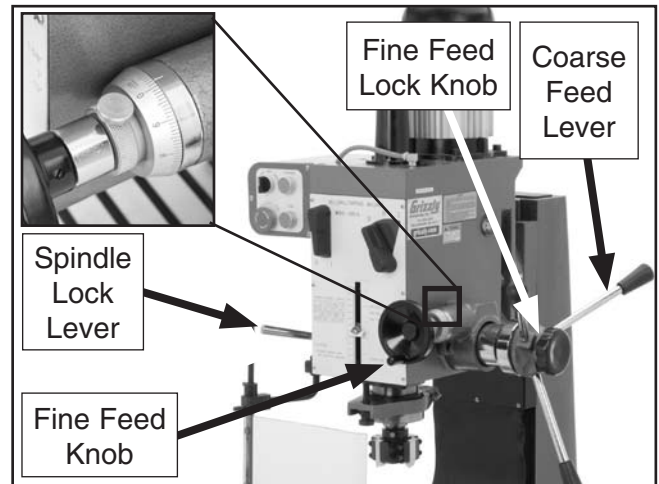

Figure 13. Spindle fine feed controls.
2. Rotate the fine feed knob to lower or raise the spindle in small increments. Observe the scale on the knob to monitor movement in thousandths of an inch (**Figure 13**).